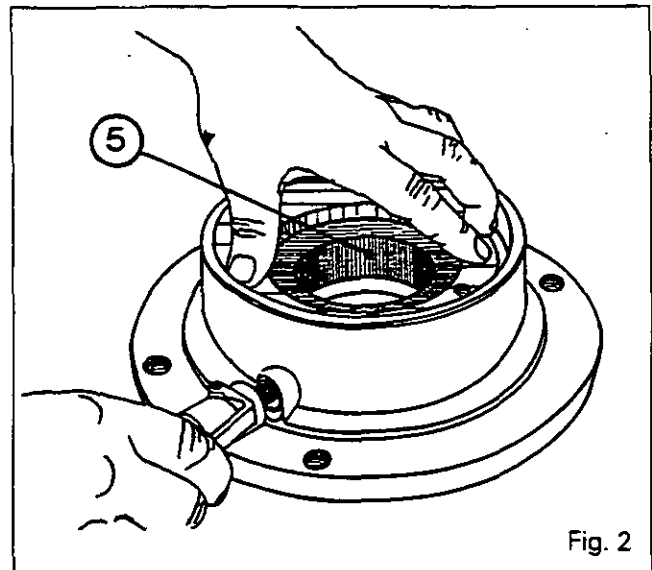

Fig. 2
6. Remove the circlip (4).
7. Withdraw the piston (5) with the aid of a jet of compressed air (Fig. 2). Exercise caution.
8. Remove the O-rings (3), (8) and (1).
9. Unscrew the finger (12) (if necessary).
26. Immobilise the tractor. Apply the handbrake. Chock the front wheels and the axle frame (see 2A01 - Fig. 2).